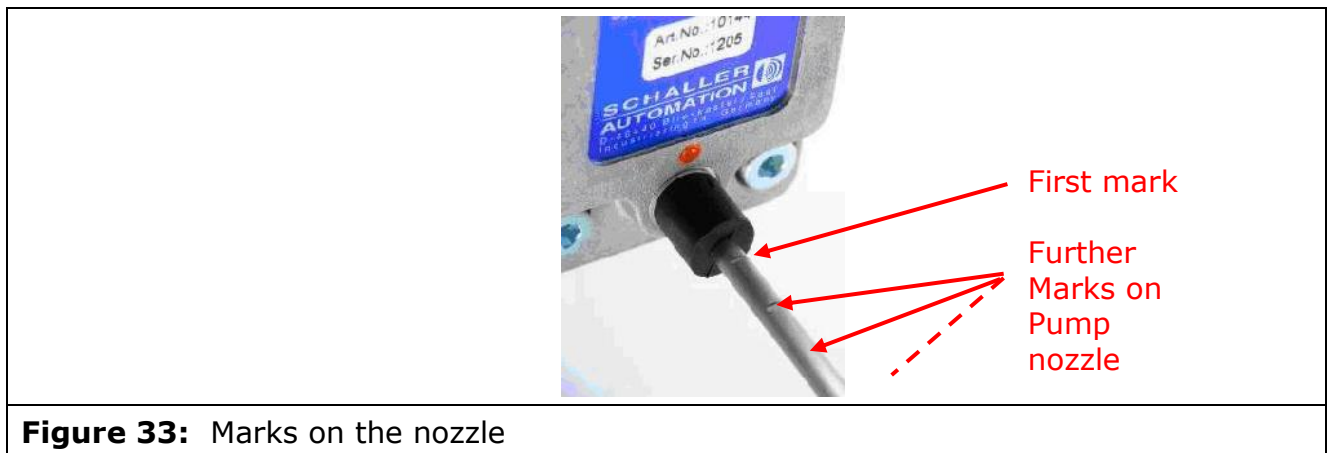

Figure 33: Marks on the nozzle
- Push in the nozzle to the first mark next to the nozzle's tip (see Figure 33).